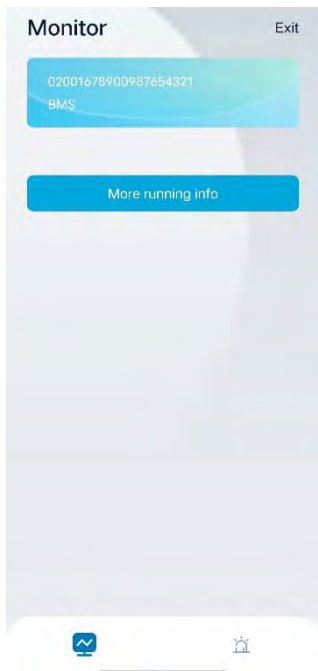

Figure5-12 BMS monitoring page
Step 1 In the home page, tap **System details**, as “1” shown in Figure5-12, it will enter system monitoring page.
Step 2 Tab the bottom icon  (as “1” shown in Figure5-12), it will enter device list page.
Tap **BMS** in the Device List page to enter corresponding monitor page, as shown in Figure5-12.